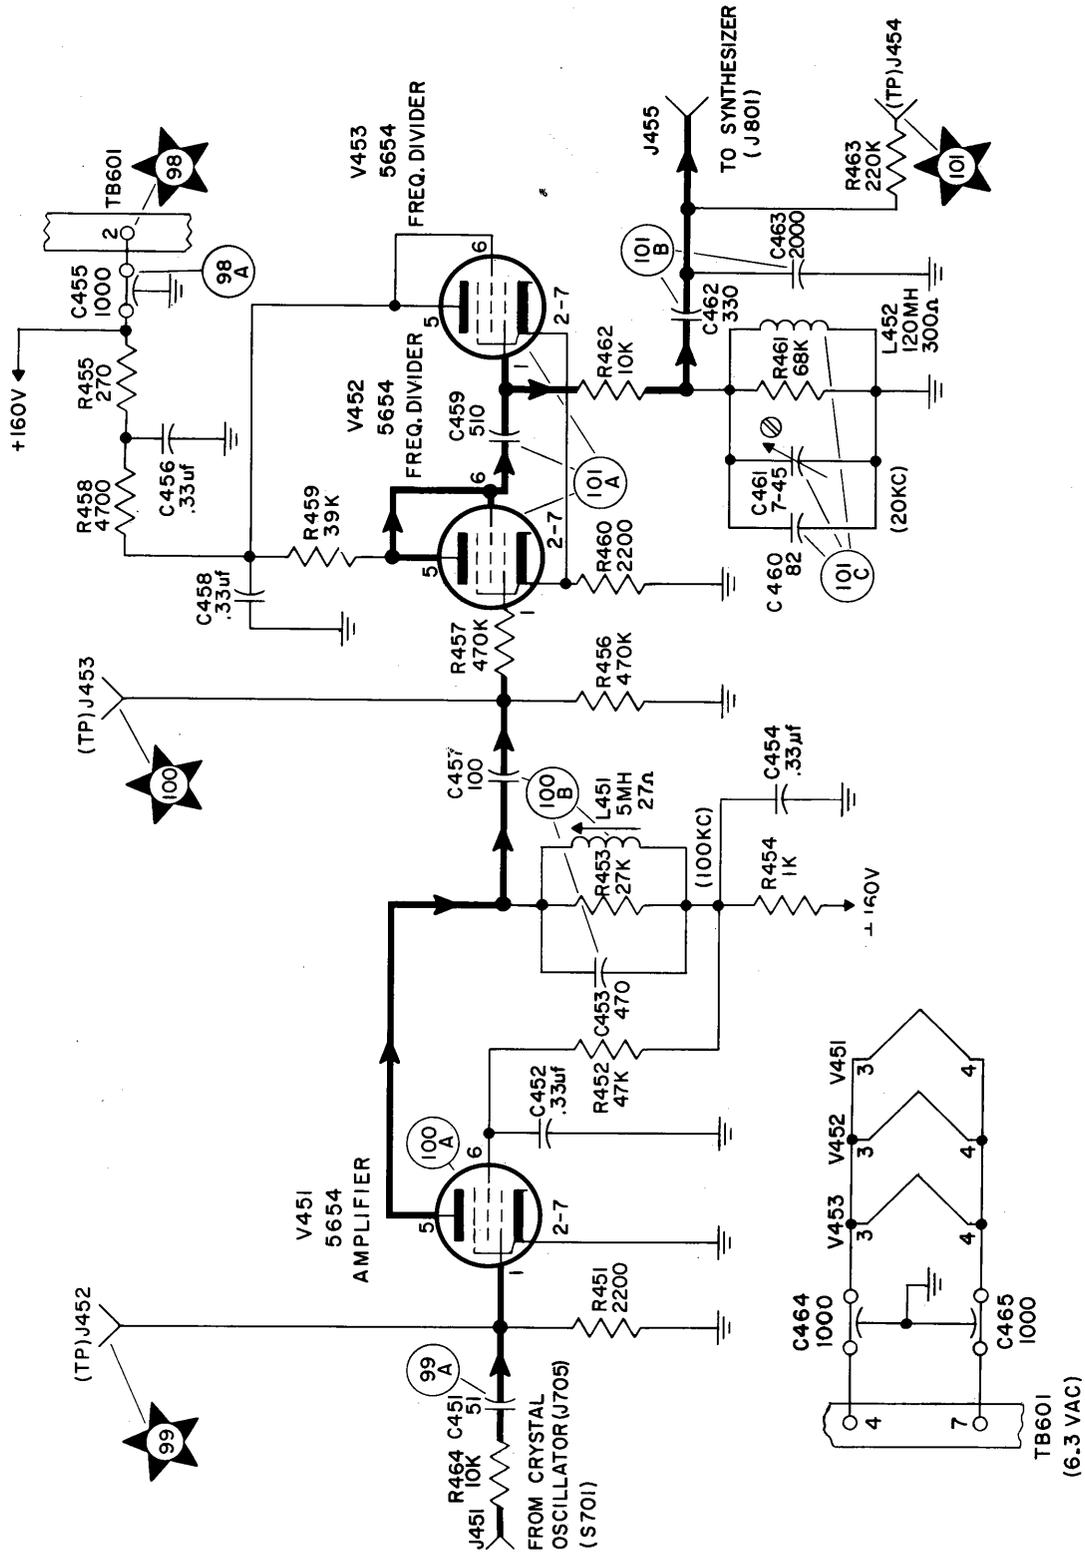
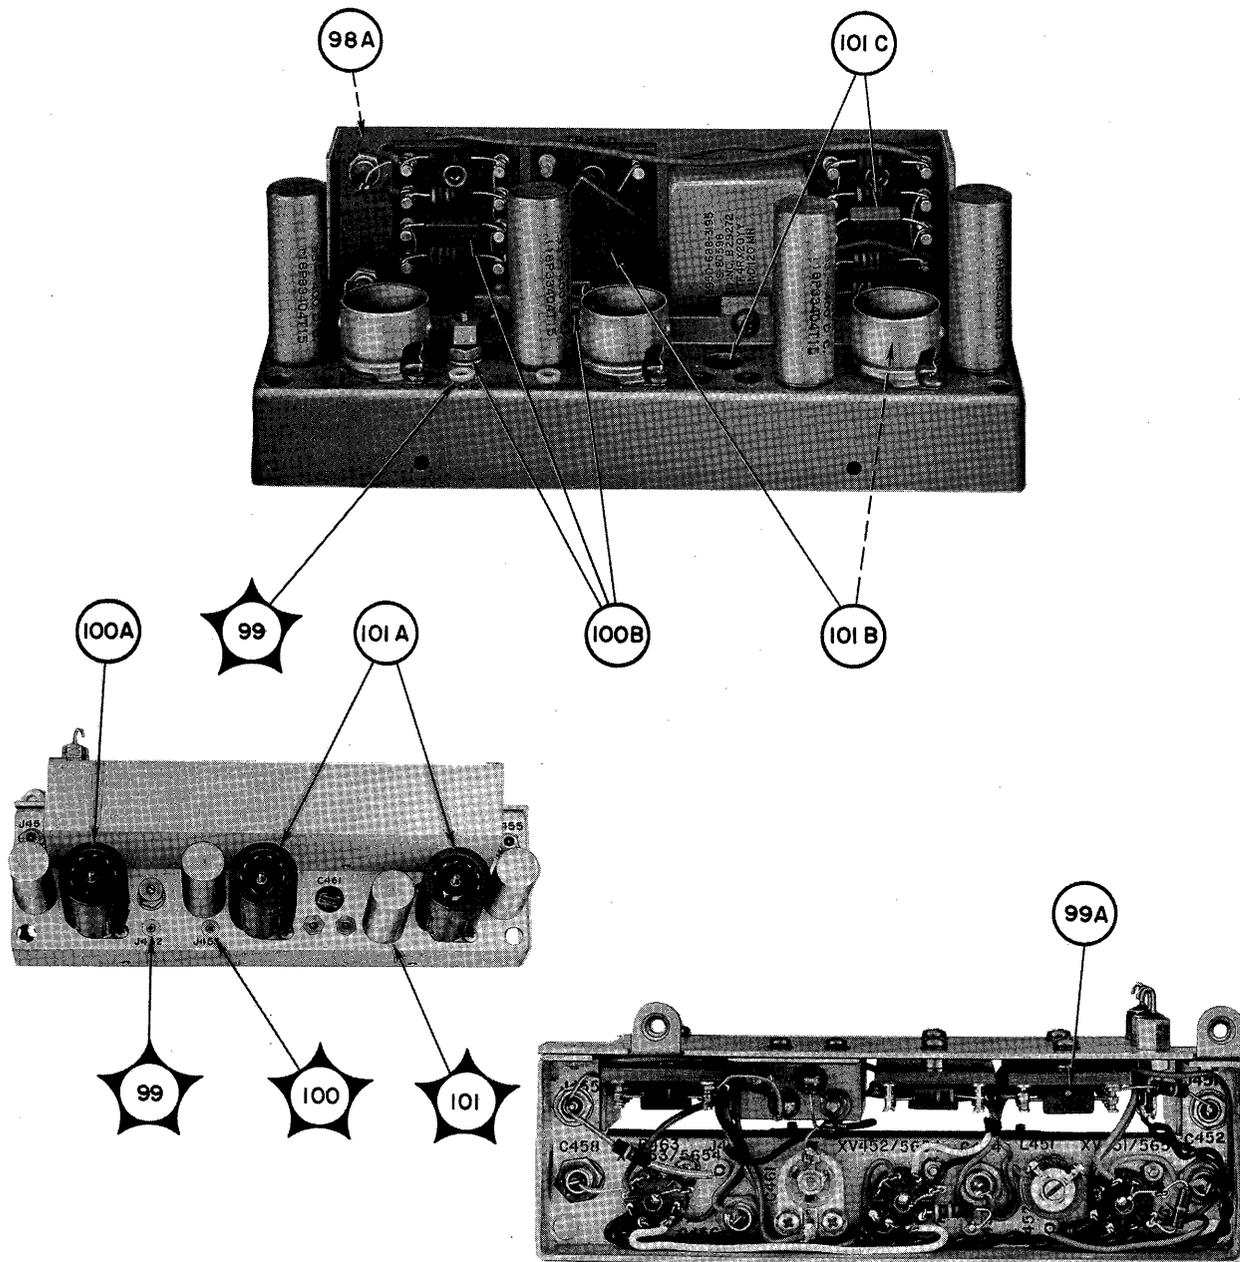

Figure 5-57. Frequency Divider, Functional Schematic Diagram
Figure 5-59. Frequency Divider, Location of Test Points
(See figure 5-57.)
f. FREQUENCY DIVIDER TROUBLE-SHOOTING CHART.—Table 5-15 lists the steps for troubleshooting the frequency divider. Perform them in the order given. Figure 5-57 is the functional schematic diagram of the frequency divider, and figure 5-59 shows the location of test points. Table 5-66 gives voltage and resistance values at the socket pins of tubes V451, V452, and V453. To reach these, take the frequency divider subassembly out of the drawer and remove the cover plate from the bottom. Refer to Section 6 for removal instructions.